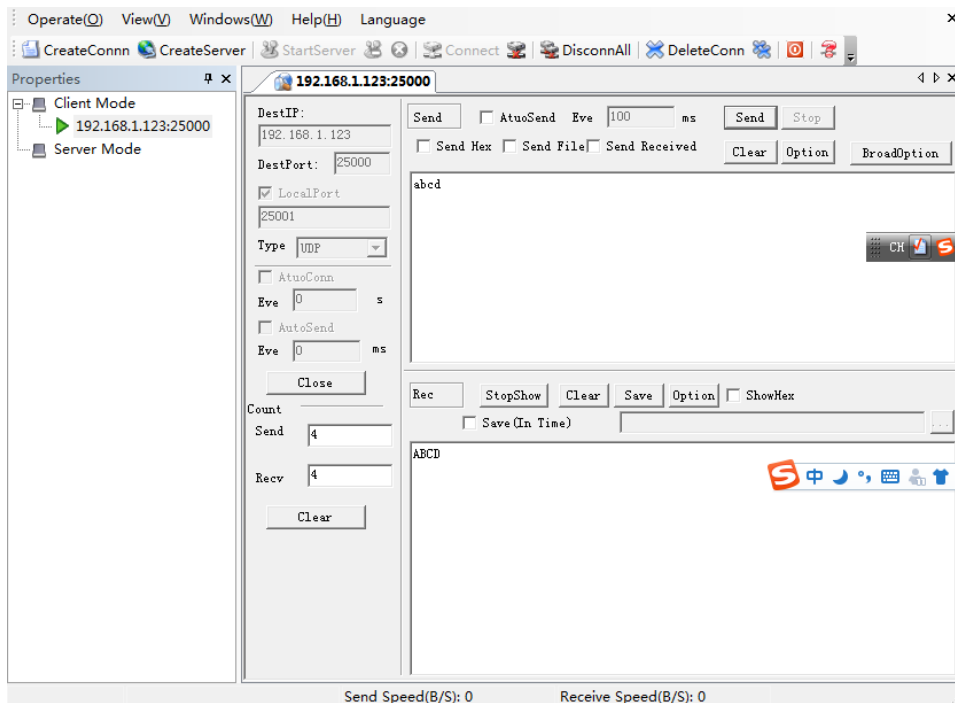

Figure 2-2 TCP/UDP Test Tool Data Sending and Receiving
3. The UDP Server sends a string to the UDP Client. In other words, send data from the TCP/UDP Test tool to the serial port tool (Figure 2-2).